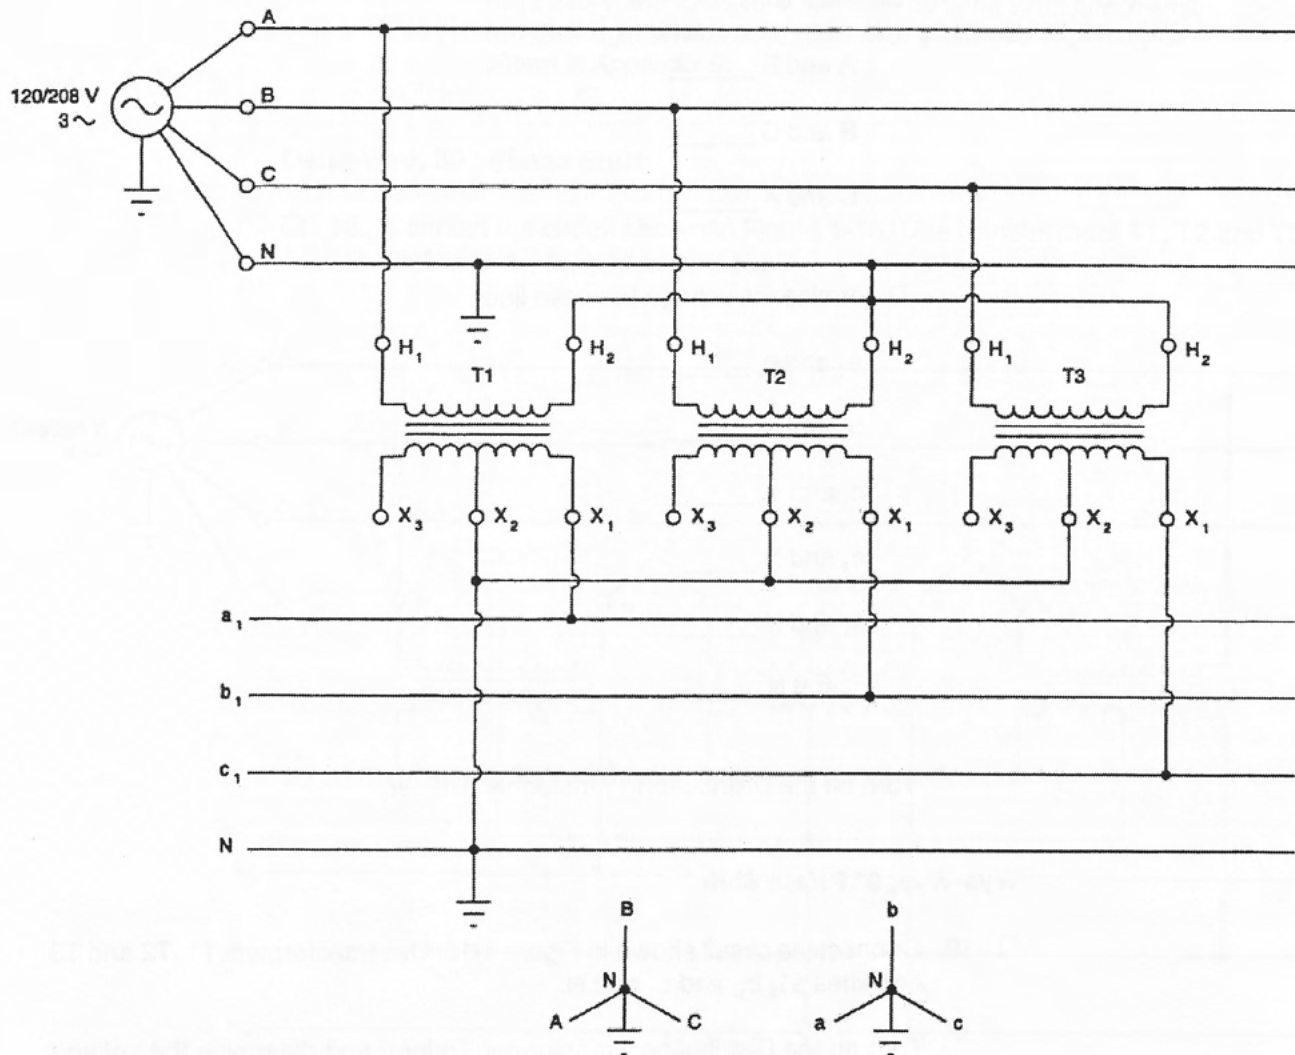

Figure 1-16. Wye-wye, 0° phase shift.
- ☐ 19. Connect the circuit shown in Figure 1-16. Use transformers T1, T2 and T3 and lines a_1 , b_1 , and c_1 and N.